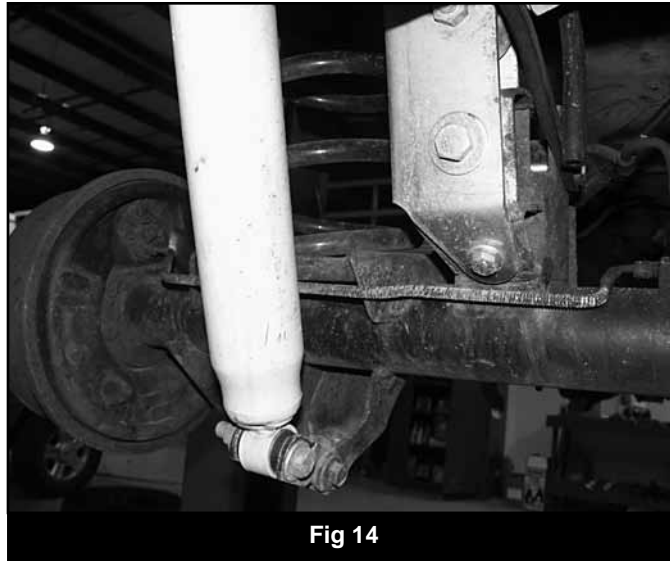

Fig 14
80. Position the provided track bar relocation bracket up to the OE axle mount. Insert the supplied 1.6" long sleeve (#6-1) in the OE axle mount. Attach the bracket to the axle through the original track bar mounting hole and new sleeve with a 12mm x 70mm bolt, 12mm nut and 7/16" USS washers (Bolt pack #722). Snug hardware to hold the bracket in place. (Fig 14)